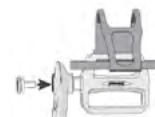

Figure 13
3. Secure the pedal using one bolt **4** (Figure 13) and torque to 33 ft-lb (45 N-m) with a hex key.